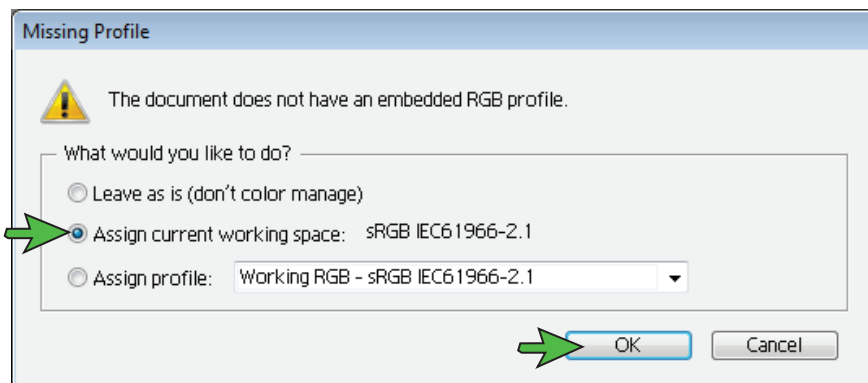

FIGURE 4
- When opening or importing images in Illustrator, you may encounter a **Missing Profile** warning. In this instance, select the radio [☑] button for **Assign current working space: sRGB IEC61966-2.1**. Click **OK** to continue (see *FIGURE 4*).